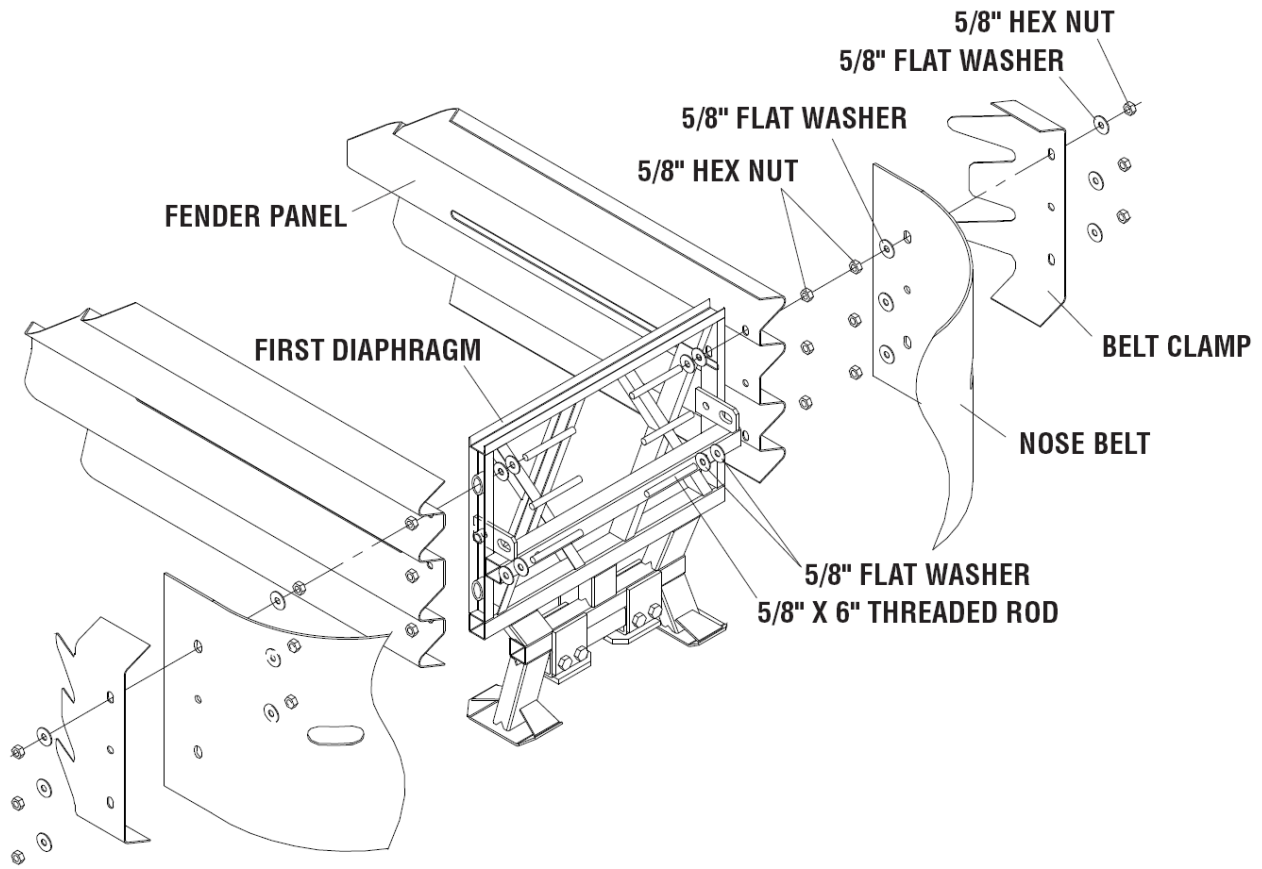

Figure 39
Attach the Nose Belt to the Fender Panels using six (6) 5/8" threaded rods (Figure 39).